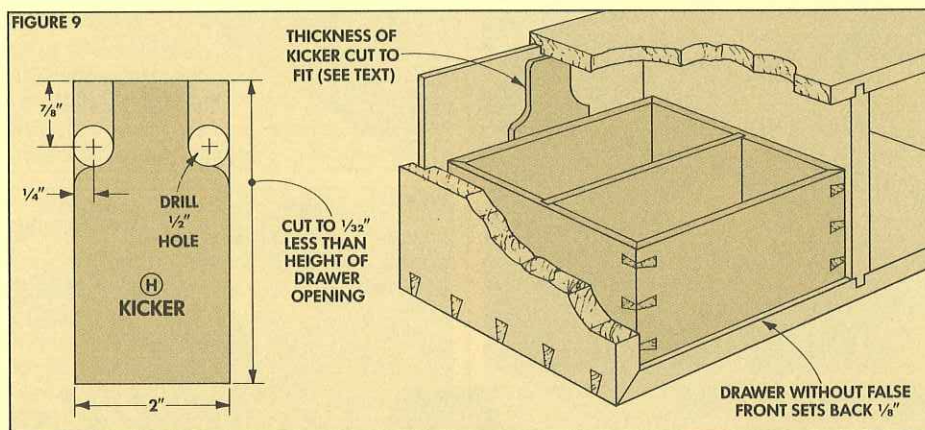

FIGURE 10
FALSE DRAWER FRONTS. To complete the drawers, cut two false drawer fronts (I) from $\frac{1}{2}$ " stock. The width is equal to the height of the drawer opening minus $\frac{1}{32}$ " and the length matches the front of the drawer, see Fig. 10.
Now rout a $\frac{1}{4}$ " round-over profile with a $\frac{3}{32}$ " shoulder around the front face of the false drawer fronts, see Profile in Fig. 10. Then glue the fronts to the drawer so they're flush with the sides and bottom.
KNOBS. When the drawer fronts are dry, drill and then screw a porcelain knob to the center of each front, see Fig. 10.